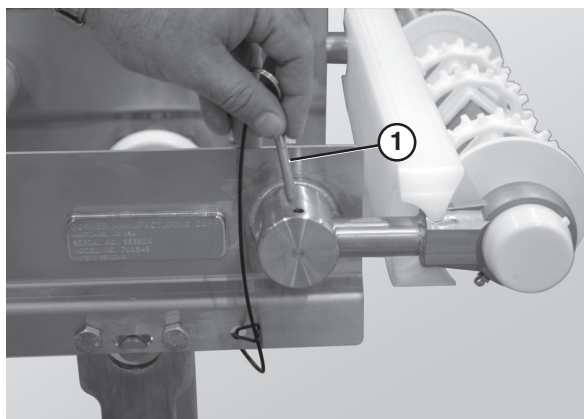

Figure 14
3. Insert the pull pins (Figure 14, item 1).